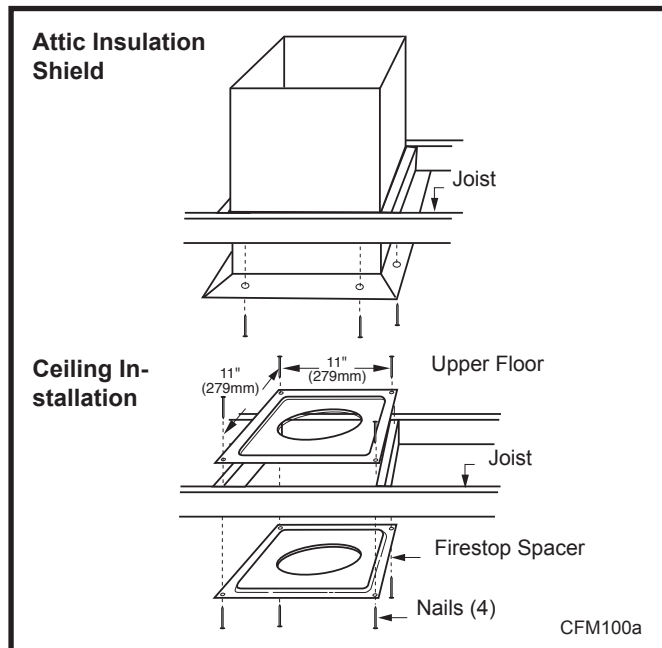

Fig. 30 Place firestop spacer(s) and secure.
6. Place firestop(s) #7DVFS or Attic Insulation Shield #7DVAIS into position and secure. (Fig. 30)